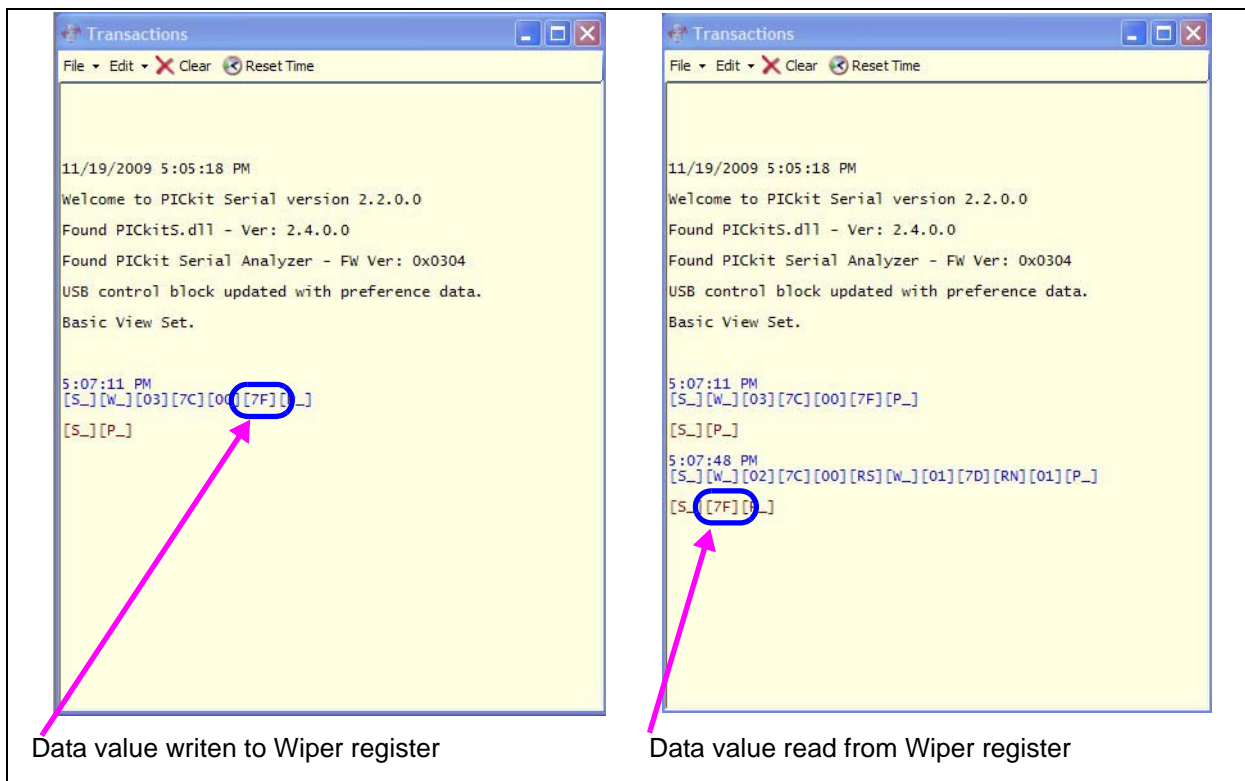

FIGURE 2-15: *MCP40D18 Transaction Windows 1 and 2.*
10. Click on the “Execute Script” button. This executes the script shown in the script detail column, which will update the wiper value to 7Fh. The Wiper voltage will now be $\sim V_{DD}$ ($\sim 5V$). The Transaction window (see Figure 2-15) will be updated to indicate the execution of the script.
12. Click on the “Execute Script” button. This executes the script shown in the script detail column. The Transaction window (see Figure 2-15) will be updated to indicate the execution of the script. The Data read is shown in the last line.